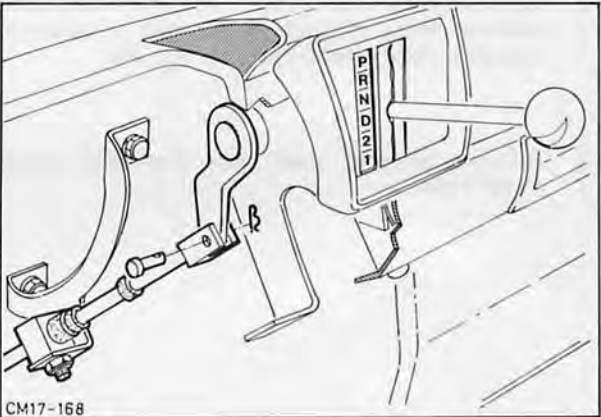

Fig. 41. Connect selector cable to shift selector lever
- 14. Attach selector cable to shift selector lever (1 split pin), Fig. 41.